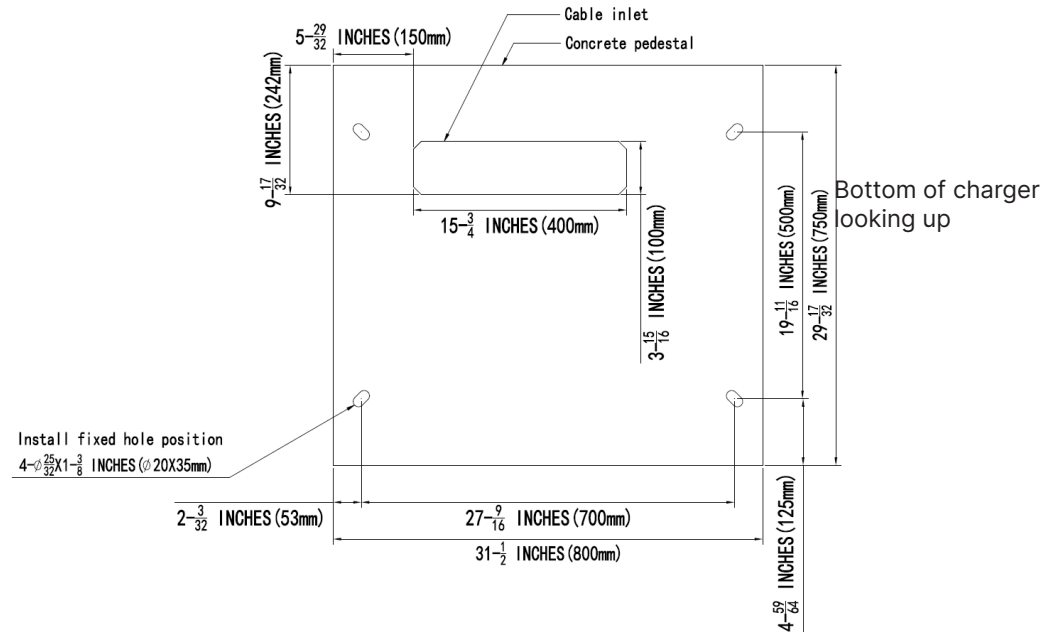

Figure 4.4.2-A
1. The hole size is shown in Figure 4.4.2-A.